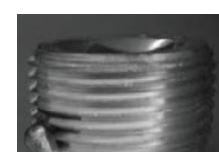

Figure 14
1. Verify sufficient STL lubricant is on conduit entries and that all unused conduit entries on the end caps are closed with lubricated plugs (see Figure 14).
2. Verify conduit is installed to at least five (5) full threads into the end cap conduit entries. Recommend approximately 1/8" bead STL on conduit entries.